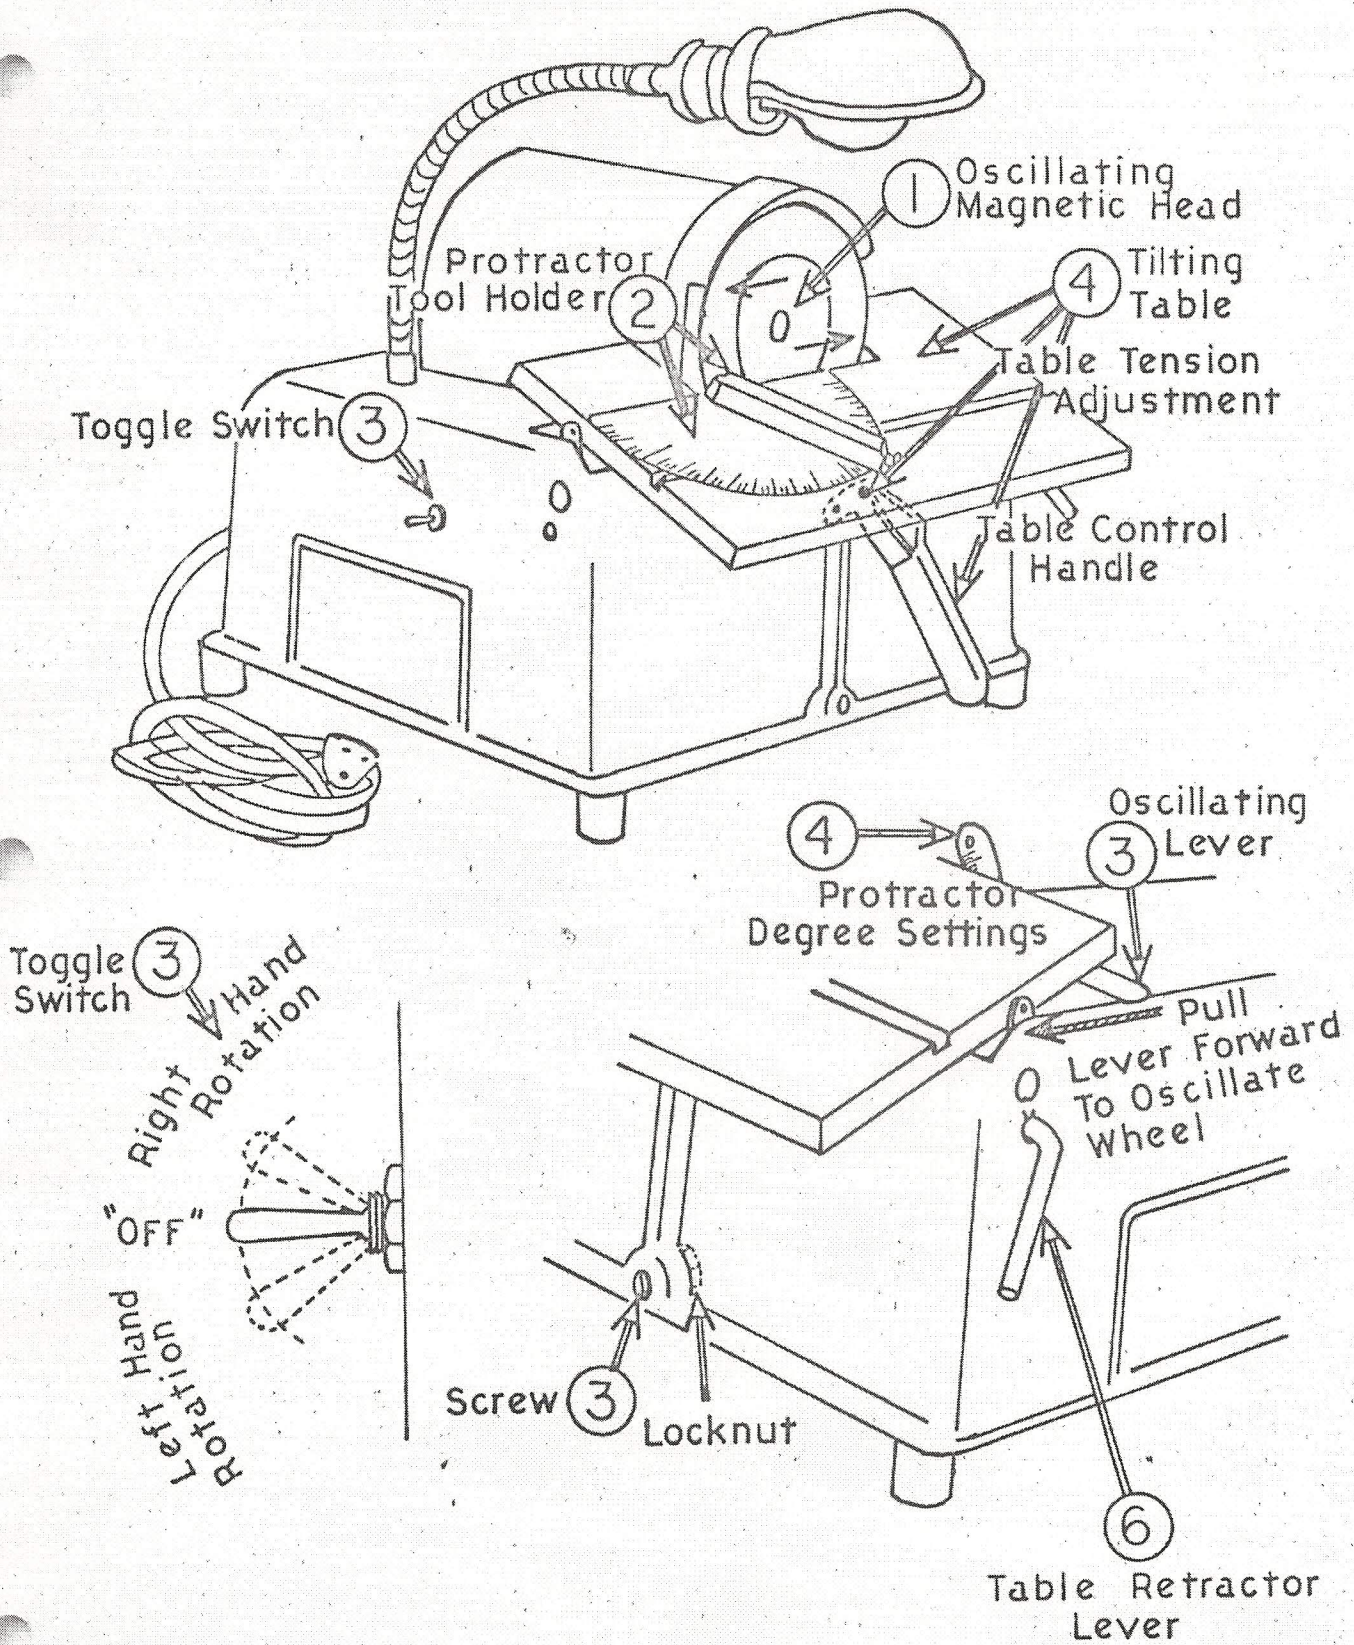

FIGURE 1
Pendulum type oscillating rotation produces highly efficient grinding and lapping action from three directions. No movement of tool is necessary. Operator merely positions tool in light contact with the oscillating wheel to produce a fine edge in seconds. (Fig. 1)
Factory installed and calibrated. It is standard equipment on all Leonard Grind-R-Lap machines. Tools are positioned on wide base of protractor for greater ease of operation. (Fig. 1)
- a. Wheel rotation is controlled by three-way toggle switch. Position of toggle switch indicates direction of wheel rotation. (Fig. 1)
- b. To oscillate wheel, pull lever forward, located on right side of machine at rear of tilt table. (Fig. 1)
- a. Provides one hand convenience with positive control. Protractor on right side of machine accurately registers degrees of setting automatically. (Fig. 1)
- b. Table tension may be increased by adjusting nut located at end of control handle. (Fig. 1)
- b. Table should be retracted during wheel changing by operating control lever, located on right hand side of machine. (Fig. 1)